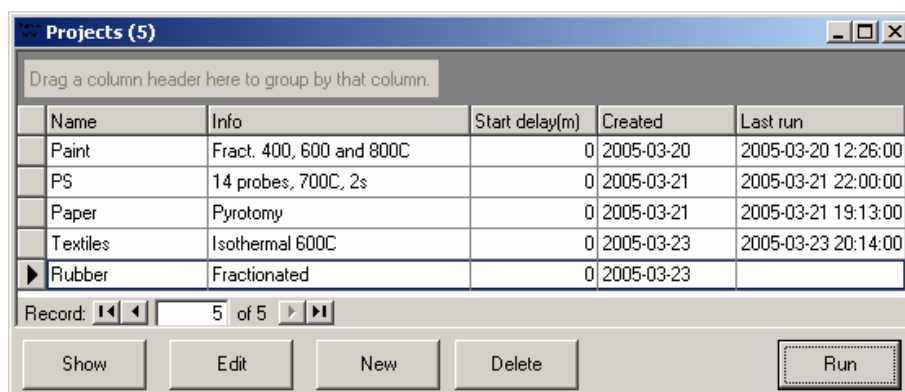

Figure 4-10. 'Projects' window.
1. Press the 'Proj.' button in the main application toolbar, see Figure 4-1, to open the projects window, Figure 4-10.